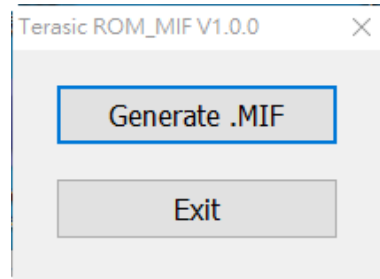

Figure 2-16 Terasic ROM_MIF utility
7. Launch Terasic ROM_MIF utility as shown in **Figure 2-16**. Click “Generate .MIF” button and select **Si5340B-Registers.txt** file generated in previous step, then **Si5340B-Registers.mif** is generated.